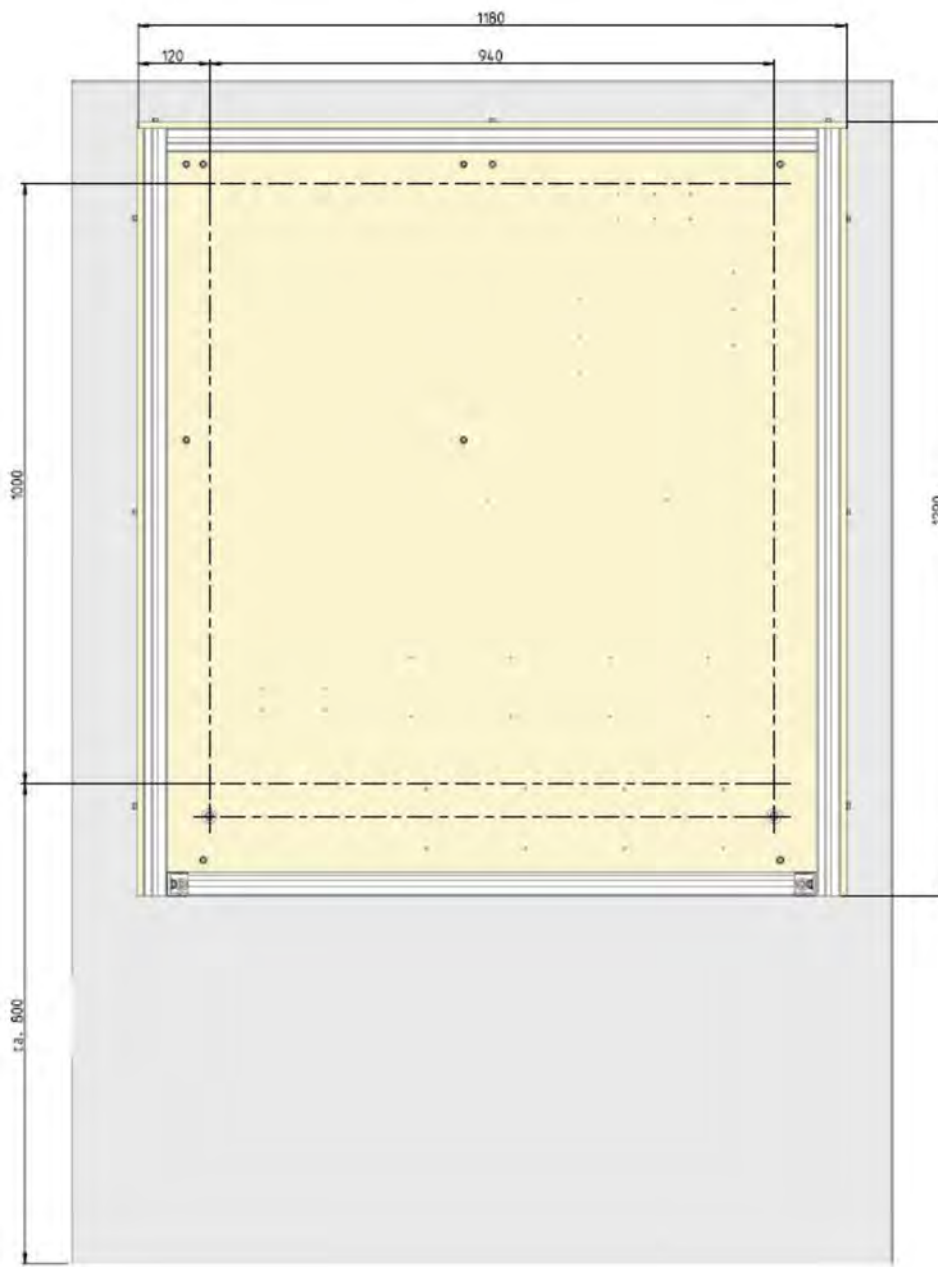

Fig. 11: Assembly diagram
2. ▶ Mark the drill holes on the wall according to diagram Fig. 11.